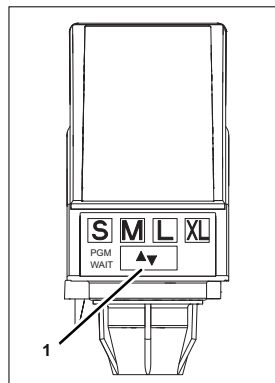

Fig. 10
2. Press the “Start & Stop” button (Fig. 10/1).
3. When the required fill quantity has been reached, press the “Start & Stop” button (Fig. 10/1) again.